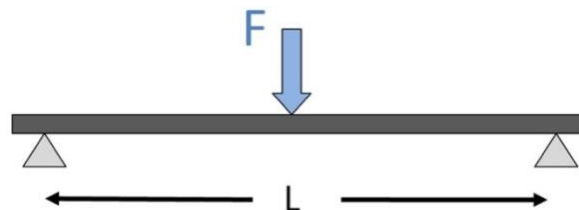

Figure 2: Three-Point Bending Test
A test sample is supported by two anvils separated by a length (L) as shown in Figure 2. A load (F) is applied in the middle, an equal distance from each anvil, and the resulting flexure (Δx) is measured. The ratio ($F/\Delta x$) is the stiffness of the sample, and depends on the length. It also depends on the shape and area of the sample cross-section, as well as the material.